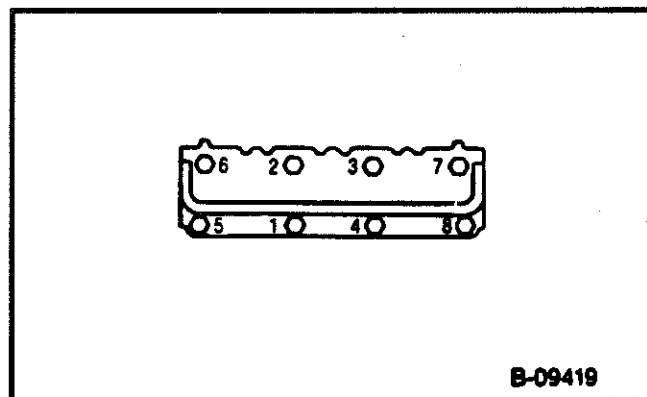

Figure 15 - Cylinder Head Bolt Tightening Sequence
- All bolts to 55 N·m (40 lb. ft.), using the sequence shown in Figure 15.